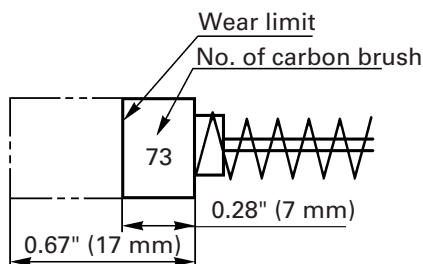

Fig. 20
4. Inspecting the carbon brushes: (Fig. 20)
NOTE: Use HITACHI carbon brush No.73 indicated in Fig. 20